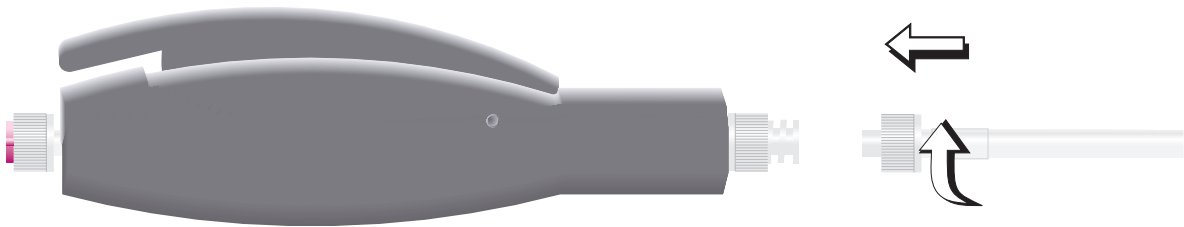

FIGURE 2
1. Connect the Luer Lock Fitting at the end of the dispense tube onto the inlet side of (3) Pinch Tube on the TS1201 Pen with twisting action (Refer to figure 2).